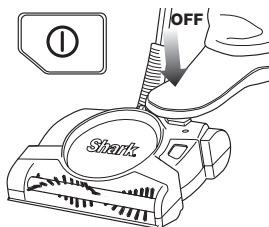

Fig. 4
- 4 The Shark® Backsaver™ folding handle makes cleaning under furniture a breeze. Just press the button on the handle with your thumb to engage the Shark® Backsaver™ function. (Fig. 4)
- 1 Always make sure that the unit is turned off. (Fig. 4)